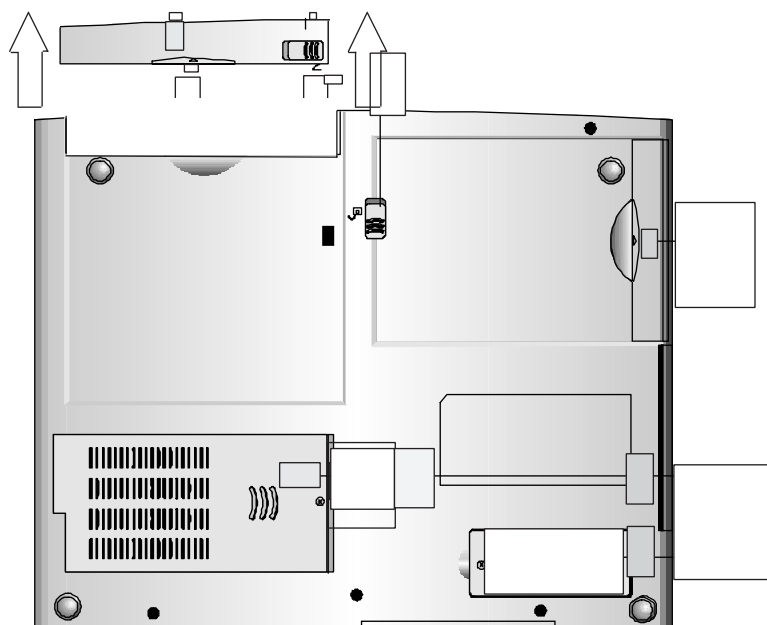

Figure 4-8: removing the CD-ROM drive
3. Slide the CD-ROM release latch in the direction of the arrow indicated in Figure 4-8.
4. Pull on the CD-ROM finger grip as indicated in Figure 4-8 to slide the CD-ROM module out of the bay.